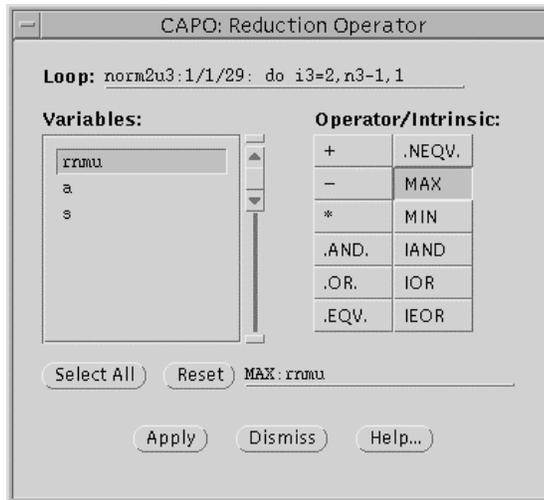

Figure T3-2: The **Reduction Operator** dialog after the **Reduction** setting is selected.
- 8. Define a new loop type.** From the **File** menu, load in the database "mg_full.dbs" from the previous analysis. Perform Step 3. In the **WhyDirectives** window, click the **[New Type]** button. Right after the **[Reduction]** setting is selected the **Reduction Operator** dialog box is shown up (see Figure T3-2). Select variable "rnmu" and intrinsic function "max", and push **[Apply]** in the **Reduction Operator** dialog and in the **Loop Type** dialog. A new entry "R[max:rnmu]" is added to file "userloop.par" in the current working directory. This is to inform CAPO to treat variable "rnmu" as a reduction variable besides other variables (such as "s"). Now in CAPO click **[Update Directives]** to re-perform the directives analysis, which will take into account the user-defined loop types from file "userloop.par."